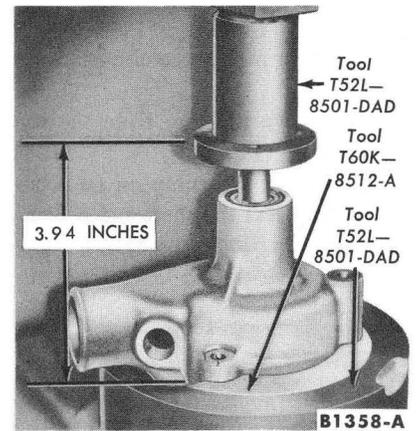

FIG. 9—Hub Installation
7. Adjust the set screw in the bottom of the fixture plate until the screw touches the end of the shaft. Do not lift the pump body. Position the water pump hub over the shaft and press it into place, holding the specified distance from the housing mounting face to the hub front face (Fig. 9).